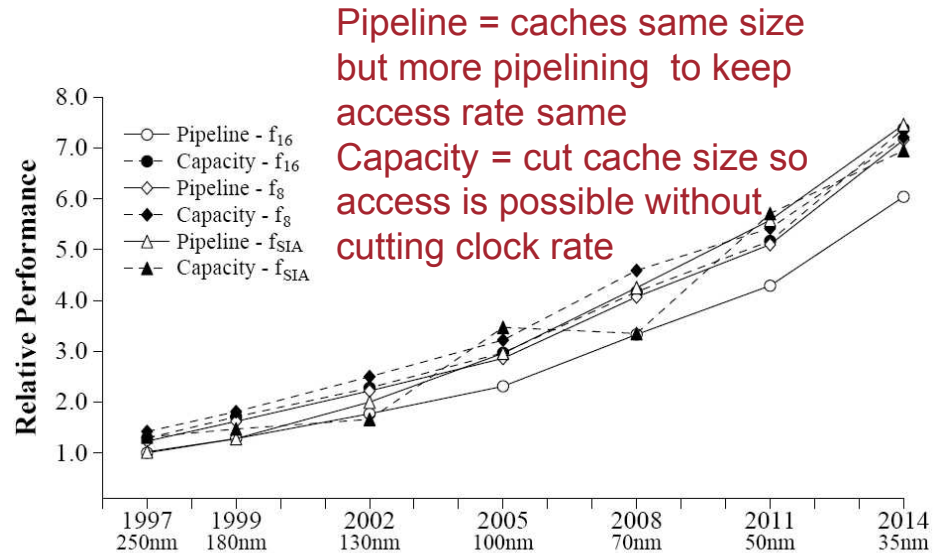

Figure 7: Performance increases for different scaling strategies.
- Figure 7 from “Clock Rate versus IPC: The End of the Road for Conventional Microarchitectures Vikas Agarwal, M.S. Hrishikesh, Stephen W. Keckler, and Doug Burger